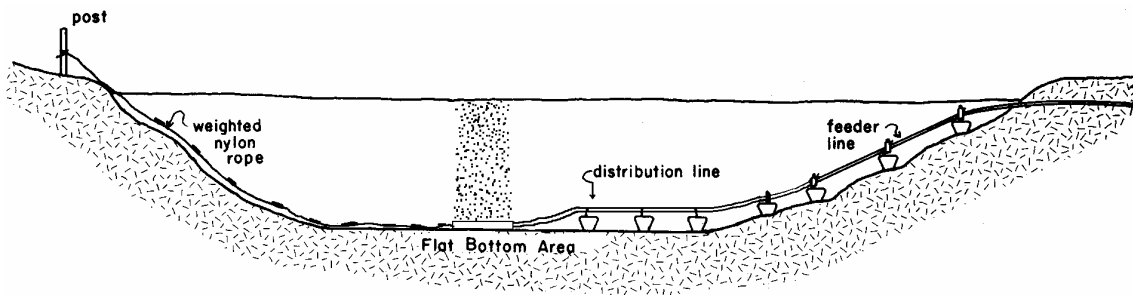

FIG. 5 SHALLOW BURIAL (side view)
8. Slacken the rope and tie it to a permanent post on shore (Figure 5).